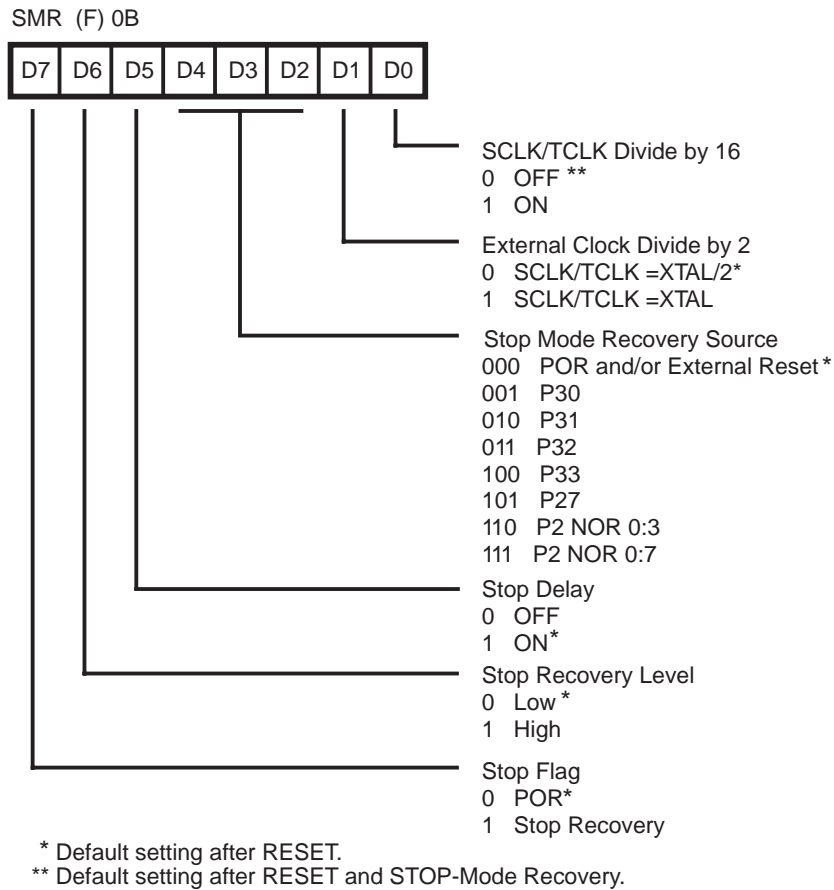

Figure 31. STOP-Mode Recovery Register
**Stop-Mode Recovery Register (SMR).** This register selects the clock divide value and determines the mode of Stop-Mode Recovery (Figure 31). All bits are Write Only except bit 7 which is a Read Only. Bit 7 is a flag bit that is hardware set on the condition of STOP Recovery and reset by a power-on cycle. Bit 6 controls whether a low or high level is required from the recovery source. Bit 5 controls the reset delay after recovery. Bits 2, 3, and 4 of the SMR register specify the Stop-Mode Recovery Source. The SMR is located in Bank F of the Expanded Register Group at address 0BH.